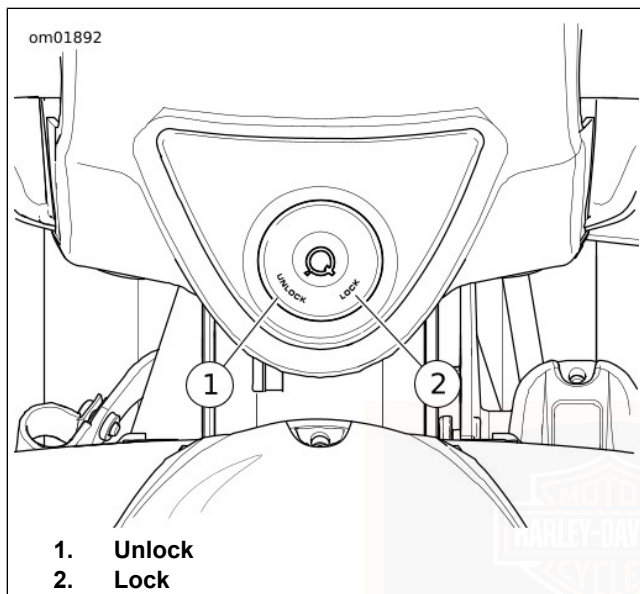

Figure 5. Fork Lock: FLRT
FLRT: See Figure 5. The fork lock is at the top of the steering head, behind the headlamp nacelle and inset in the handlebar clamp shroud.
2. See Figure 5. Insert key and turn key counterclockwise to LOCK position. Remove key.